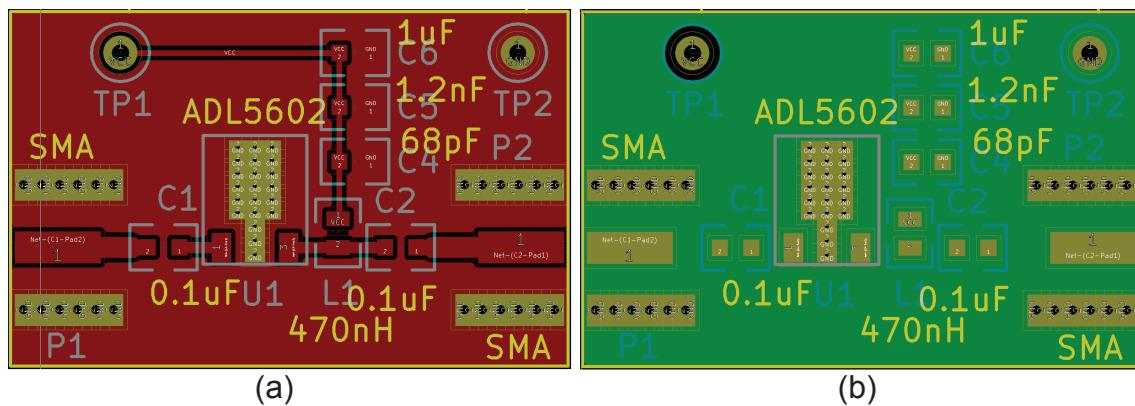

Figure 47: Layout of the example 2 circuit after copper filling.
4. Once the fill zones have been defined, right click on anywhere in the main layout window and select "Fill or Refill All Zones" to create the copper fill. Fig. 47 shows the copper filled layout. Notice that the gap between the trace and the fill is uniform everywhere. This is because we set up only one fill zone. Setting up multiple fill zones will allow you to have multiple separations.